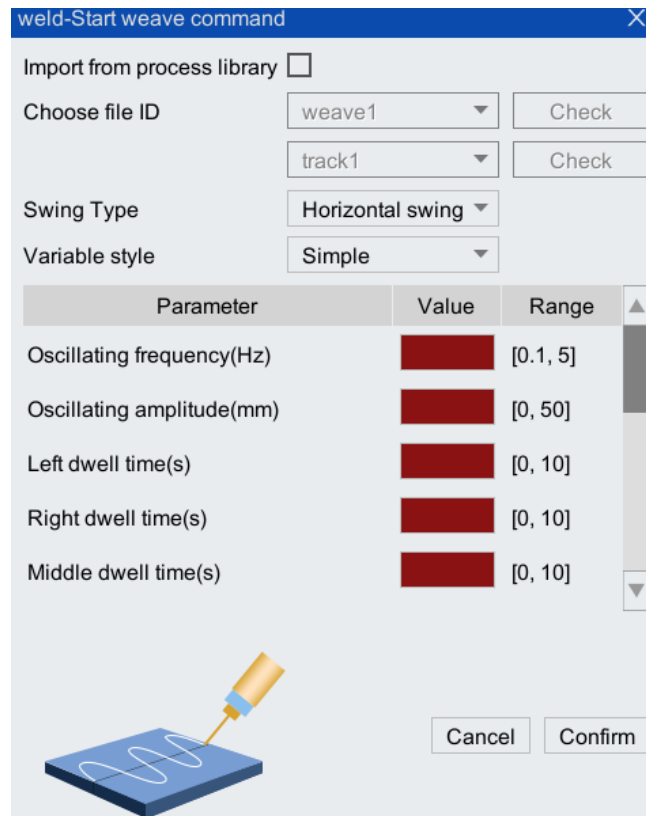

Figure 7-5 Swing instruction parameters are imported from the process library file
- Step1. Click [Insert Cmd/Function Pack/Weld/Welding Command/weld-Start weave Command] on the program editor interface, and the interface shown in Figure 7-5 will pop up.